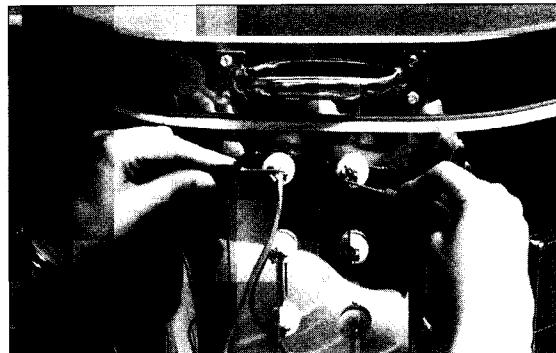

Figure 32
2. Remove control panel (see Figure 32).